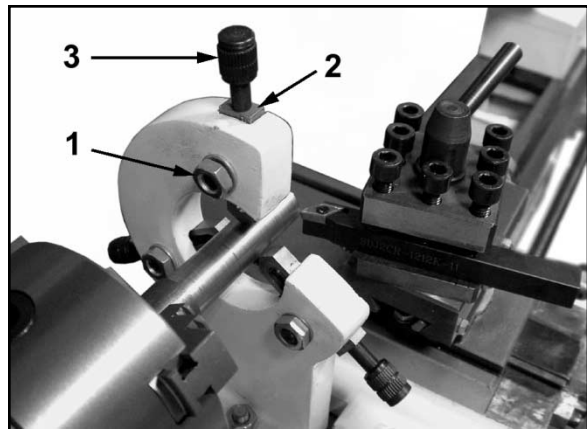

Figure 27
1. Loosen three hex nuts (1, Figure 27).
2. Loosen knurled screw (3, Figure 27) and open the sliding fingers (2, Figure 27) until the steady rest can be moved with its fingers around the workpiece. Secure the steady rest in position.
3. Tighten knurled screws so that fingers are snug but not tight against the workpiece. Tighten three nuts (1, Figure 27). Lubricate the sliding points with machine oil.